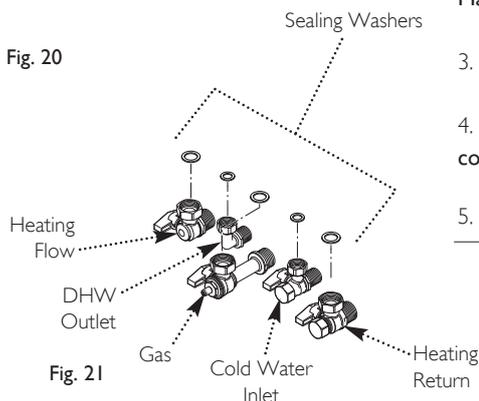

Fig. 21
3. Identify the valves prior to fitting to the boiler (Fig. 21).